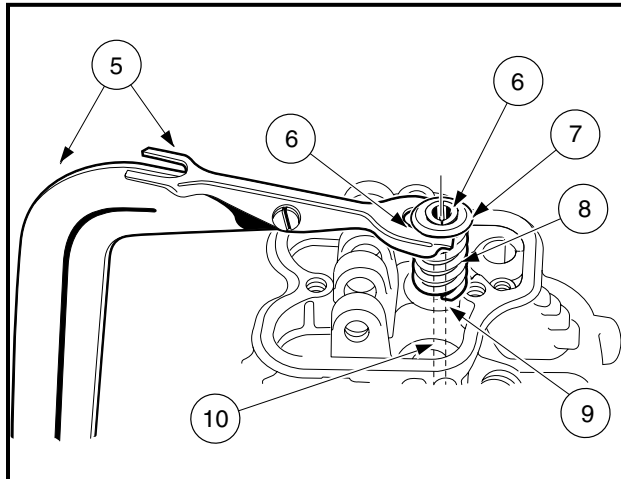
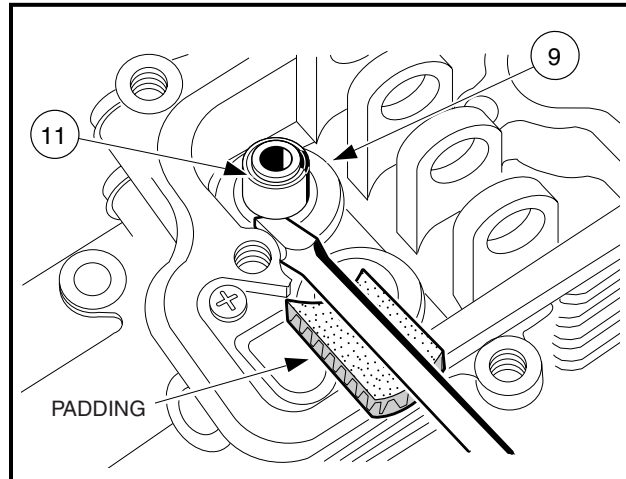

Figure 3-9 Valve Removal
Figure 3-10 Spring Seat Removal
1. Compress the valve spring using a valve spring compressor (5) (CCI P/N 101641101) and remove the collet halves (6) (**Figure 3-9, Page 3-8**).
2. Remove spring compressor and take out the upper retainer (7) and the spring (8).
3. Remove valve (10).
4. Remove valve stem seal (11) with a screwdriver (**Figure 3-10, Page 3-8**). See following **CAUTION**.
- To keep the screwdriver from damaging the cylinder head flange surface, place a piece of heavy cardboard or wood between them (**Figure 3-10, Page 3-8**).
5. Remove spring seat (9) (**Figure 3-10, Page 3-8**).